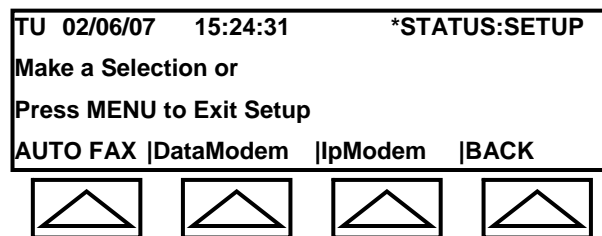

Fig. 4-14l: Modem Submenu
The screen will appear as in Figure 4-14l.
5. In the Modem Submenu (see Figure 4-14l), select DROP DATA, VLD DATA, ALARM DATA, or SHIFT DATA.